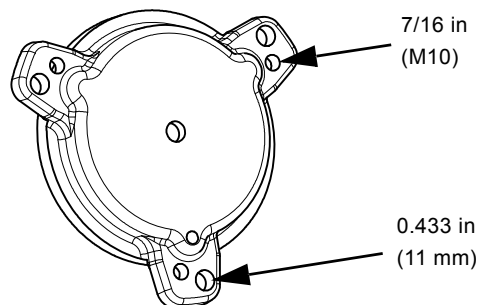

Fig. 14 Upper bearing bracket
1. Remove screws (183).
2. Use 3 x M10 x 80 screws to lift up the bracket in a balanced way, using the 0.433 in (11 mm) holes. See fig. 14.
3. Remove the upper bearing bracket (61).